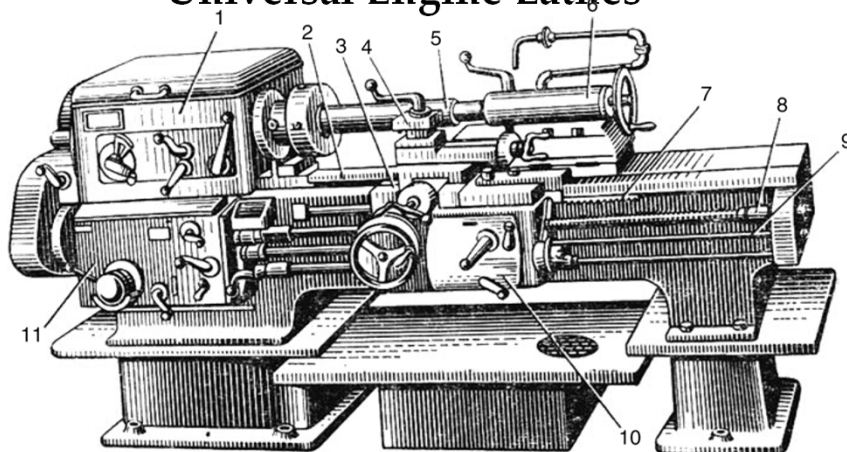

FIGURE 3.2 Typical engine lathe.
- Figure 3.2 illustrates a typical universal engine lathe.